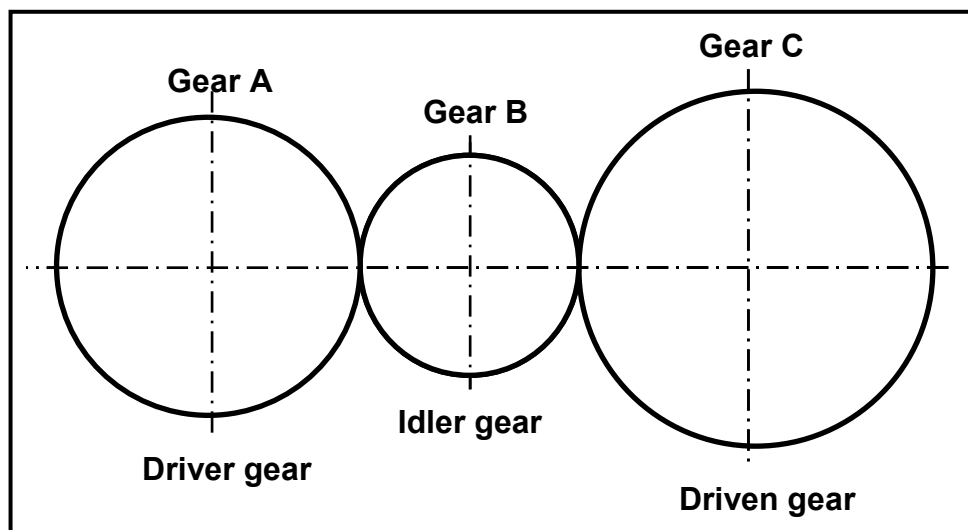

FIGURE 6.1
- 6.2 The gear system in FIGURE 6.1 below is used to control a hoisting device. The driver gear has 56 teeth and rotates at 700 r/min. The idler gear used to change the direction, rotates at 980 r/min. The driven gear has 64 teeth.